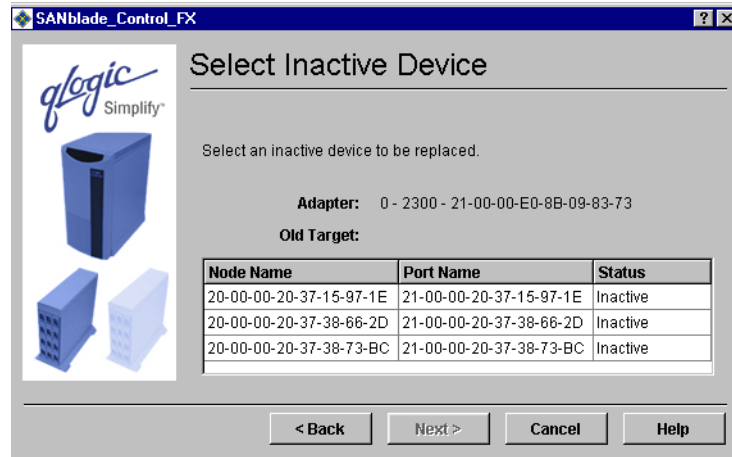

Figure 14-25. Select Inactive Device Dialog Box
5. To continue, click **Next**. The **Select Inactive Device** dialog box displays (see figure 14-25).